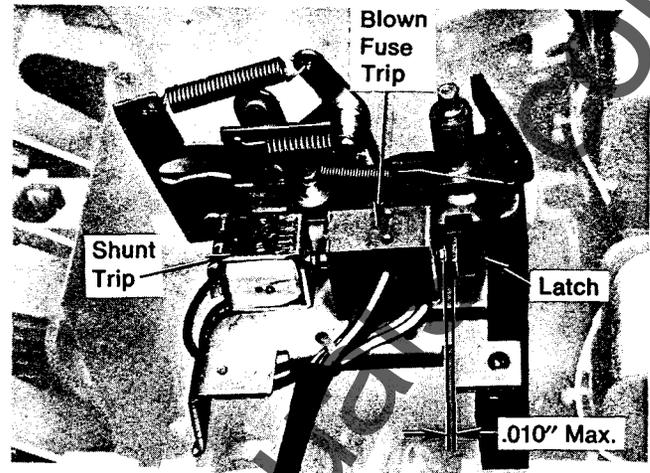
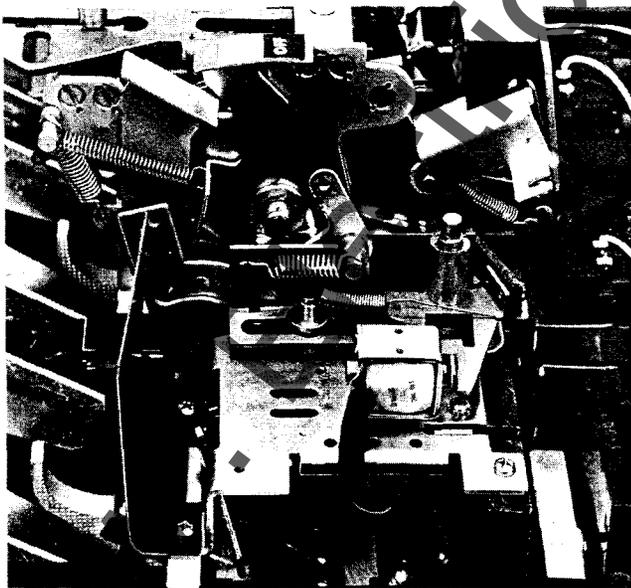

FIG. 24
FIG. 23
1. Remove three (3) mounting plate retaining screws and isolation barrier, See Fig. 23.
1. Assemble coil to mounting plate as shown in Fig. 23. If the mounting plate is also to be equipped with a blown-fuse trip device, mount the shunt trip as shown in Fig. 24.
4. Remove knockouts as required in side of base. Each knockout will accommodate up to three bundles of wires (Fig. 23). Remove all sharp edges with a file.